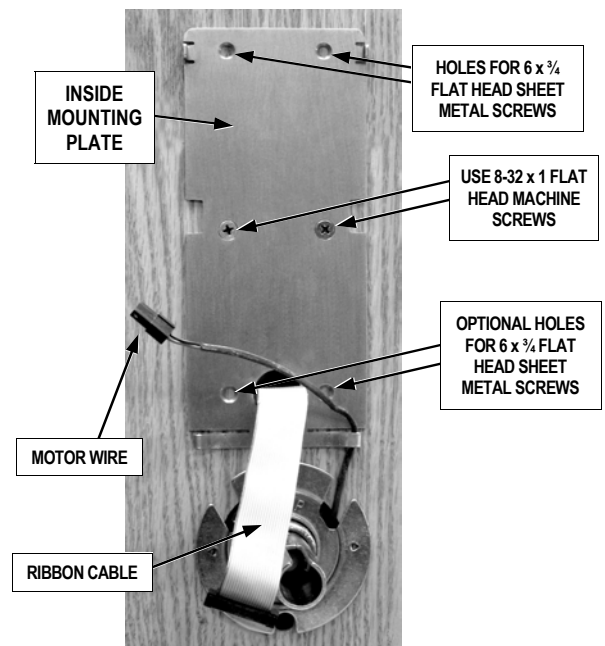

FIG. 13: INSIDE MOUNTING PLATE INSTALLATION
2. Position inside mounting plate and pull the ribbon cable through the mounting plate opening--be sure not to pinch or cut the wires. Fasten inside mounting plate with two 6 x 3/4 flat head sheet metal screws and two 8-32 x 1 flat head machine screws as shown in Fig 13 (do not over-tighten). The two bottom screws are optional. **Note:** Be sure the mounting plate is perfectly vertical before installing sheet metal screws. See Fig. 13 for screw locations. **Note:** As you tighten the screws, the inside mounting plate pulls in and secures the outside lock body to the door.